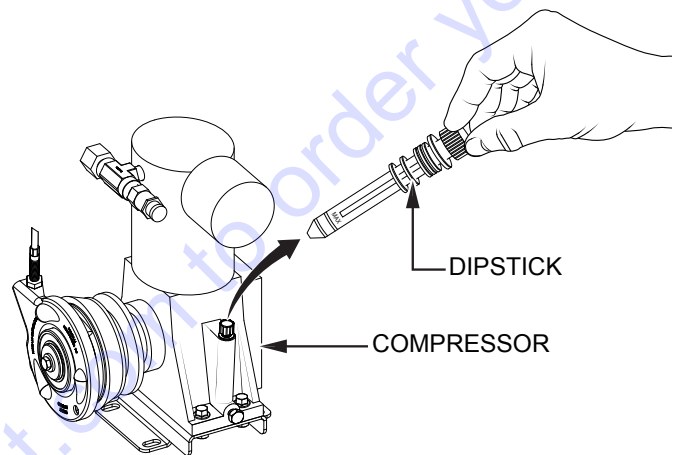

Figure 21. Checking Compressor Oil
1. Remove the compressor dipstick and check the compressor oil level shown on the dipstick (Figure 21). The oil should be between the dipstick's minimum and maximum marks. If the oil level is low, fill with the recommended oil type (Table 7). Maximum compressor oil capacity is 0.094 quarts (0.09 liters).